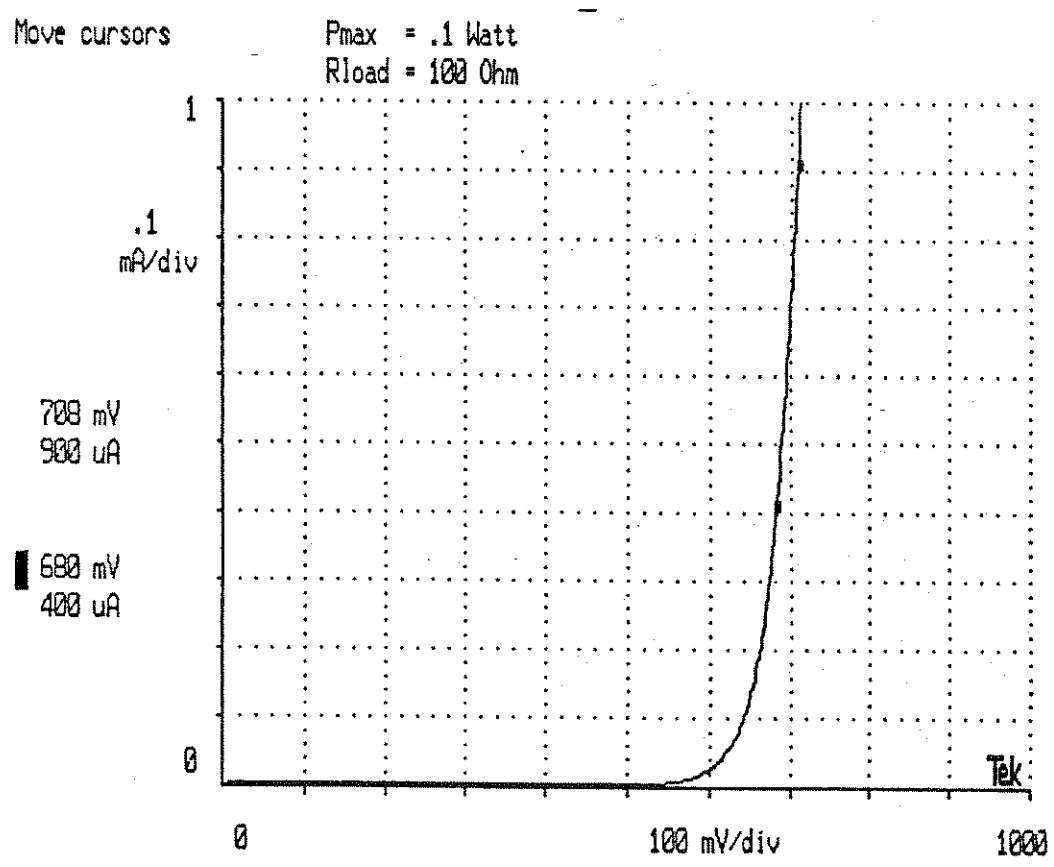

Figure 3-14: Diode Curve in Forward Direction
Step 3. Press START. This results in a curve as in Figure 3-14.